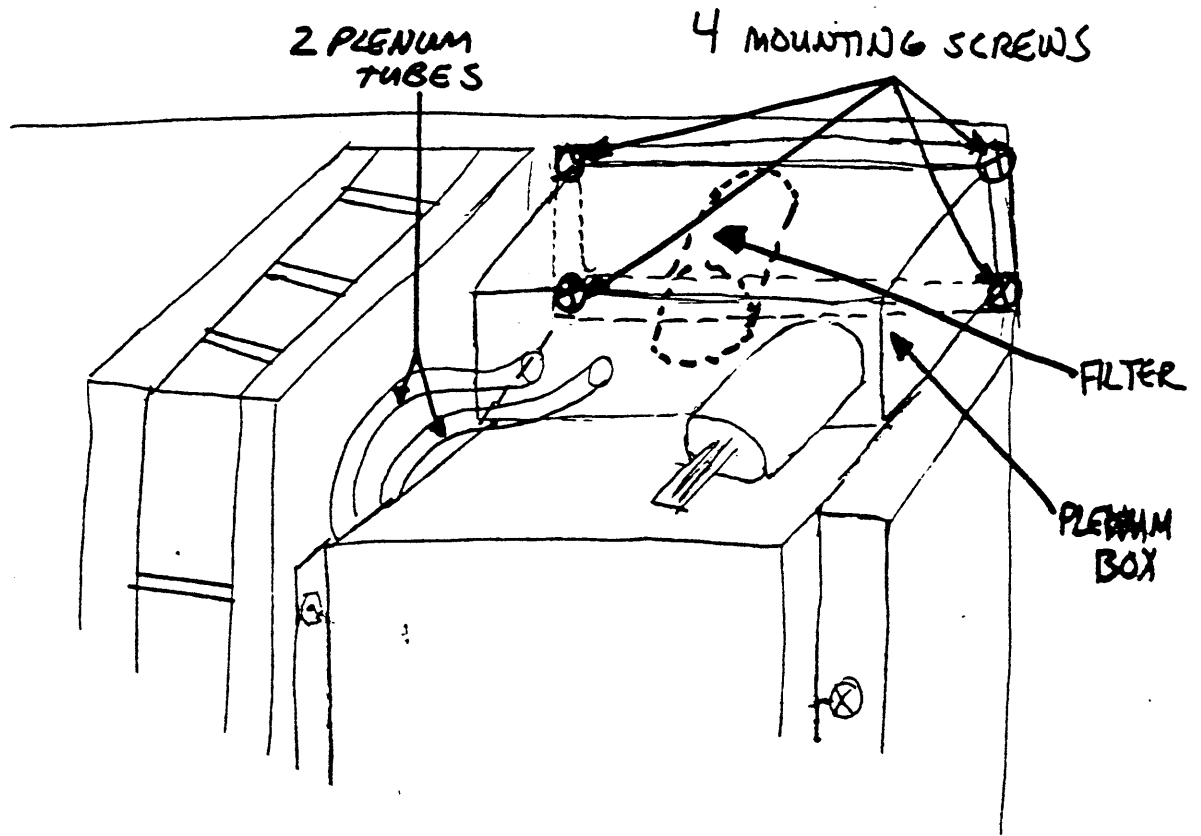

Figure 10 Plenum Box and Air Filter Removal
1. Remove the two plenum tubes (Figure 10) from the plenum box.